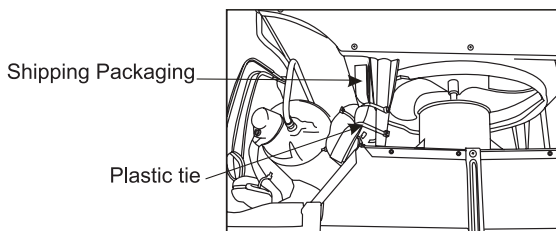

Fig.7
10. Your unit may come with internal packaging. This packaging must be removed prior to installing the air conditioner back into the cabinet (see Fig.7).